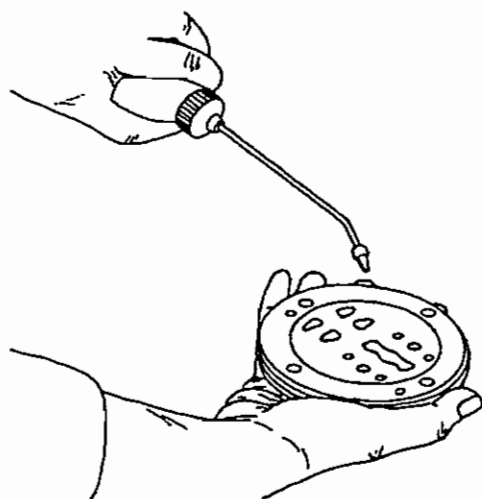

Fig. 11.11 Checking the 1st stage valves for leakiness
- Remove the tube nuts, tubes and ferrules from the fittings (7 & 3) on the valve head (1).
- Unscrew the socket head cap screws (9), hex bushings (11), flat washers (10) and set screws (8).
- Remove the gaskets (4 & 6) and the valves assembly (5). Discard the gaskets and replace them with new gaskets.
- The 1st stage inlet and discharge valves are a combined reed valves assembly and must be replaced as a complete set if they are malfunctioning. Check for leaks by filling the inlet and discharge valve cavities with water (see fig. 11.11) and allow to stand for 10 minutes. If the water has leaked out, the valves assembly should be replaced.